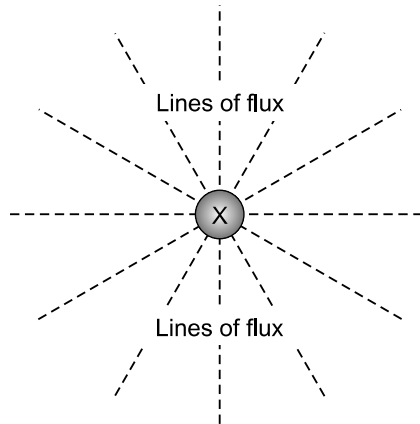

Fig. Test3-1. Illustration for Part Three Test Questions 6 and 7.
6. In Fig. Test3-1, the object marked X is an example of
7. In the situation shown by Fig. Test3-1, the flux density